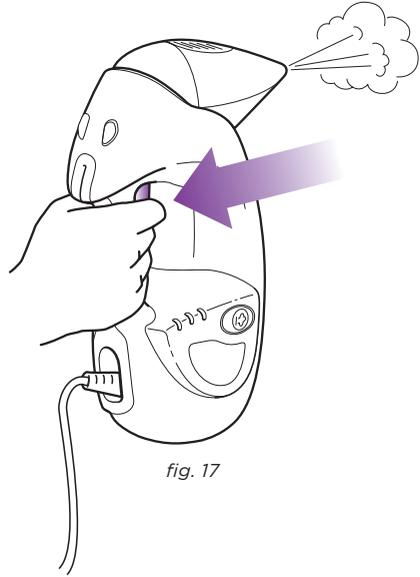

fig. 17
- 2 Then press and hold the steam trigger to start steaming. While the steam trigger is pressed and held down, the **ON/STANDBY** button will be solid blue. When released, the **ON/STANDBY** button will return to flashing blue. (fig. 17)